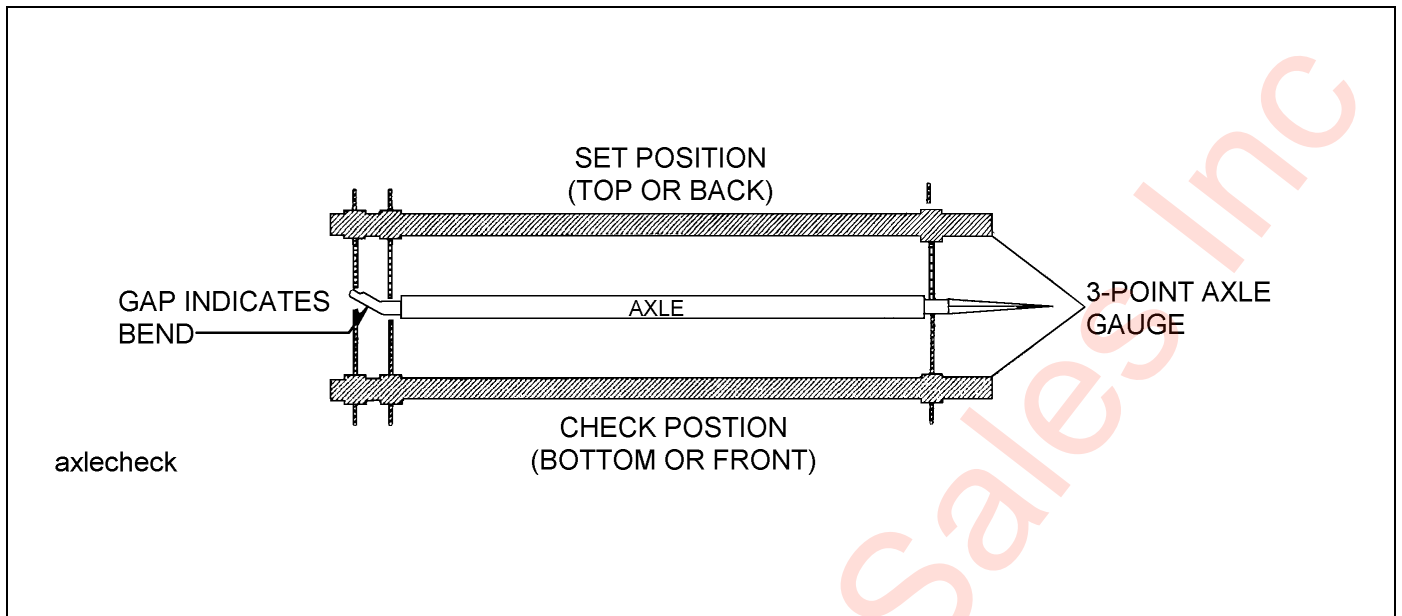

Figure 4-6: Checking Axle for Bend
2. Place a 3-point axle gauge against the front side of the axle, and adjust each axle gauge point to the axle. (Double point end against the inner and outer wheel bearing surfaces of the spindle being checked and the other point on the inner bearing surface on the other spindle.)(See Figure 4-6.)
3. Move the axle gauge and place against the back side of the axle. If either of the points of double point end fails to touch the axle surface, a bent spindle is evident. A point gap of .015" or more is considered excessive tire "toe" and the axle must be replaced (See Figure 4-6.)